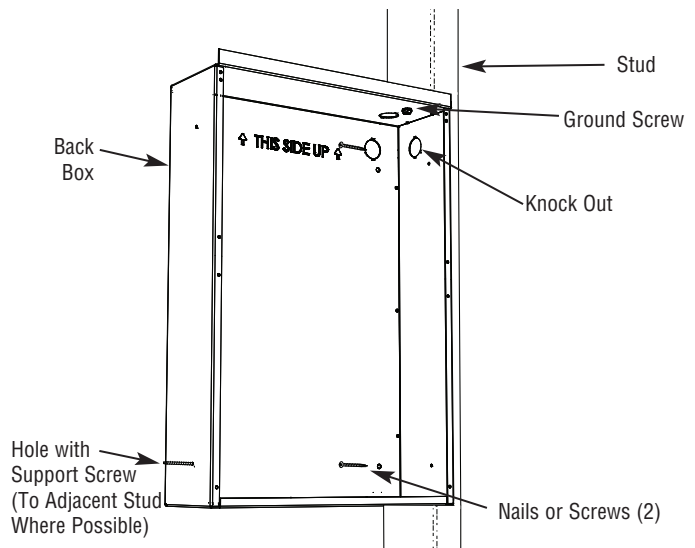

Figure 2 - Attaching Backbox to Stud
1. In new construction without the finished wall in place, position the back box against the side of stud allowing the side to extend beyond the stud so it will be flush with the finished wall surface. (You must know the thickness of the finished wall when installing) Secure the box to the stud using two screws (not included) as shown in Figure 2.
- When possible, install an additional long screw (such as a 3" wood screw) through the lower side mounting hole into the nearest stud (see Figure 2). Use care and do not over-tighten the screw as this will deform the backbox and make installation of the heater assembly difficult or impossible. Screw should only be tightened enough to keep screw in place.
- Drill a small hole in back box flush with the inside surface of the finished wall and install a screw (length not critical, but should be at least 1 inch) see Figure 2.
- Locate a stud and carefully mark and cut a hole measuring 12-1/4" (311 mm) wide by 17-3/4" (451 mm) high so one side of hole is along the edge of a stud – see Figure 2.
- Fit back box into opening aligning sides of box flush with finished wall surface and secure box to stud using two screws (not included) as shown in Figure 2.
- Insert one #8, three inch long wood screw (not provided) through the free side of the back box not mounted to the stud and secure in the lower mounting hole. This will prevent the back box from pull out on the unsupported side when installing the heater assembly. Be careful not to drive the wood screw more than 3/8" into the stud. Too much would cause the back box to pull out of alignment. See Figure 2.